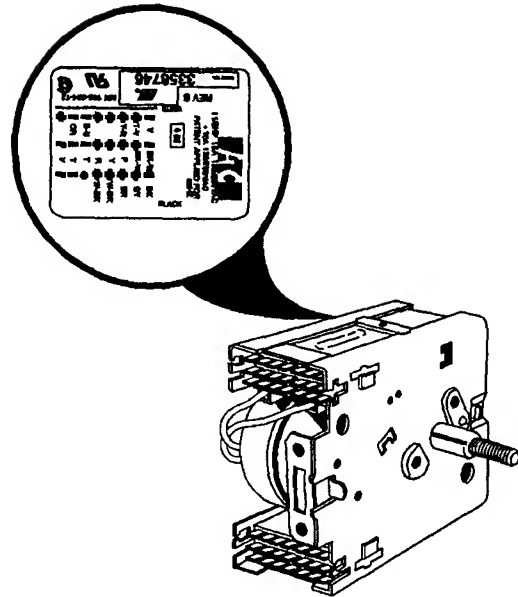

Fig. 47
1. To remove the timer knob, push the knob in from the front and unscrew it from the timer shaft. (Fig. 47)
3. Remove the two (2) Hex-head screws securing the timer assembly to the console mounting plate.